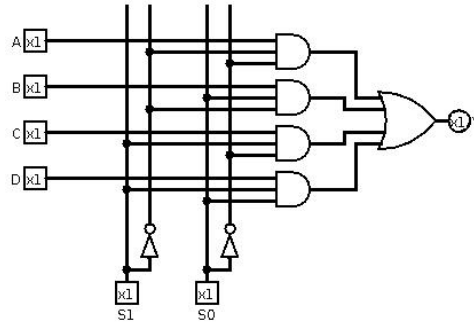

Figure 3: A 4 to 1 Multiplexer
We can draw a logic diagram for the 4 to 1 multiplexer as shown in Figure 3.
1. Sketch a circuit diagram similar to Figure 3 except for a simpler 2 to 1 mux. Use AND, OR and NOT gates only. You are welcome to use *logisim* on the linux computers to draw the diagram (and test the logic!).